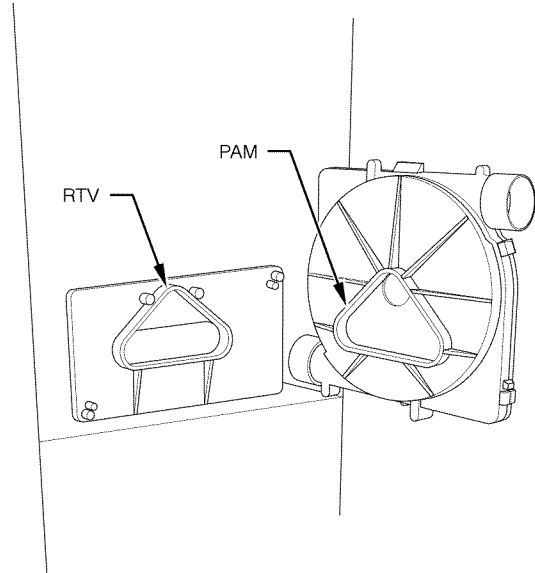

Fig. 2 - Inducer Motor Assembly in Upflow Furnace Orientation
1. Inspect seal on collector box where new inducer housing will mate to ensure no damage has occurred. (See Fig. 2.)